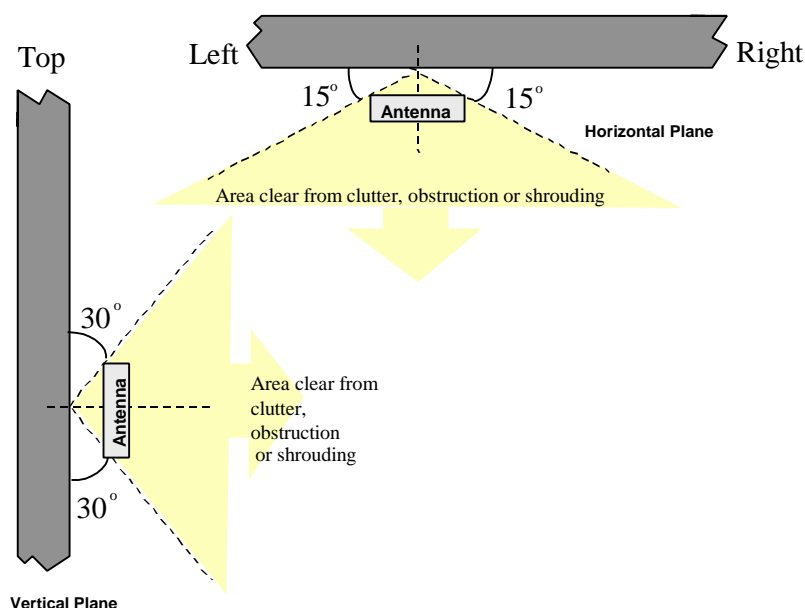

Figure 14. Antenna Positioning
- Avoid obstructions such as adjacent walls or overhanging roof eaves, within 15° in the horizontal plane and 30° in the vertical plane (see Figure 14).